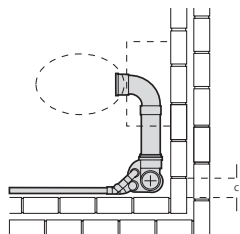
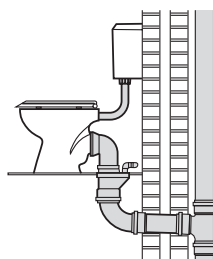

Fig.33b Internal soil stack connection (1st floor) plan
Fig.33c External soil stack connection (1st floor) elevation
- May be positioned neatly in corner of room for connection to internal (Fig.33b) or external (Fig.33c) soil stack